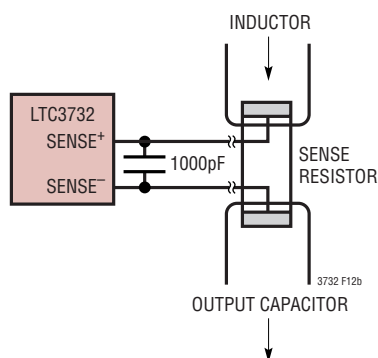

Figure 12. Kelvin Sensing R_{SENSE}
3) Are the SENSE^- and SENSE^+ printed circuit traces for each channel routed together with minimum PC trace spacing? The filter capacitors between SENSE^+ and SENSE^- for each channel should be as close as possible to the pins of the IC. Connect the SENSE^- and SENSE^+ pins to the pads of the sense resistor as illustrated in Figure 12.